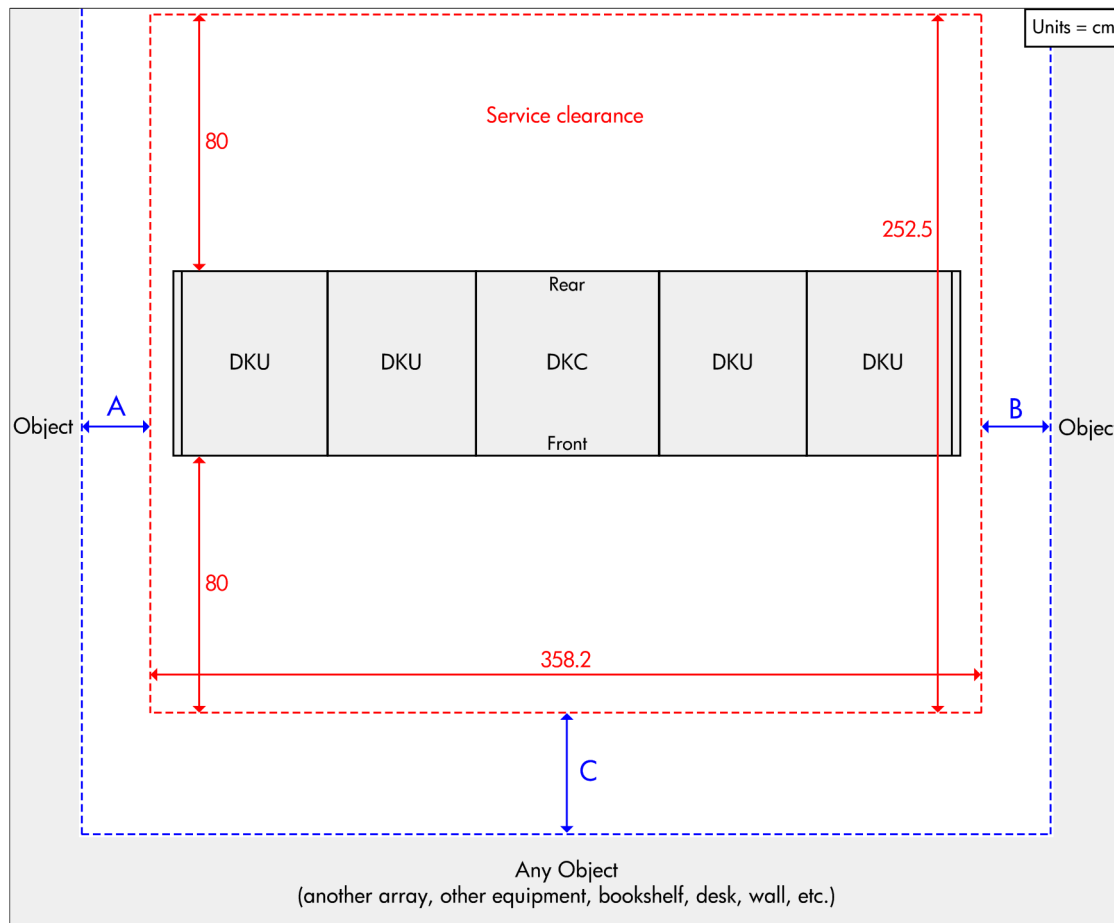

Figure 8. Floor clearance — DKC and four DKUs
- DKC with four DKUs—Figure 8 (page 44)